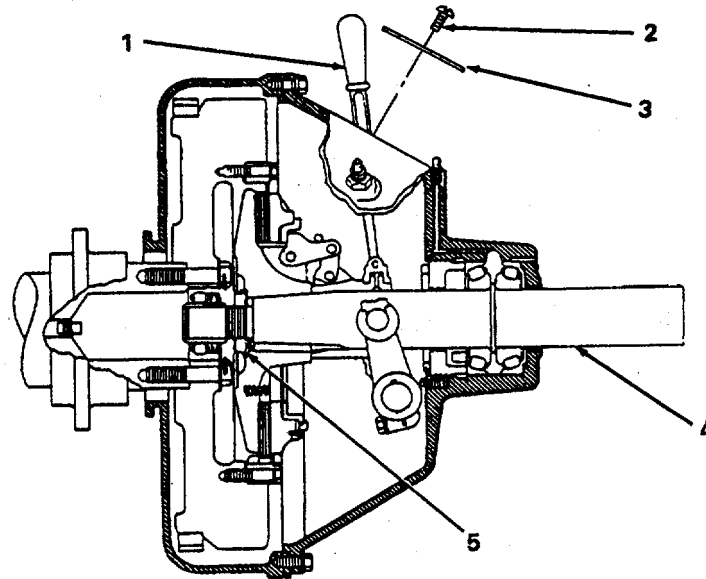

Figure 5-9. PTO/Clutch Adjustment.
- (a) Operate hand lever (1 figure 5-9) to disengage clutch.
- (b) Remove two screws (2) and clutch inspection cover (3).
- (c) Hold output shaft (4) and turn adjusting ring (5) clockwise to increase pressure required to engage clutch.